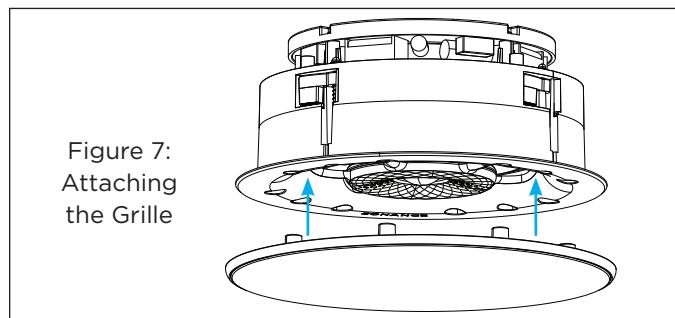

Figure 7:
8. The Visual Experience Extreme Grille features Sonance Extreme Post Capture (XPC) technology. XPC holds the grille in place by several small magnets located on the posts of the grille and inside the post holes located on the speaker baffle (see Figure 7). Place the grille against the speaker, aligning the grille posts and post holes. The magnets will pull the grille posts into the post holes and hold the grille firmly in place. When the grille is properly installed, the grille trim should make contact with the mounting surface all the way around the speaker.